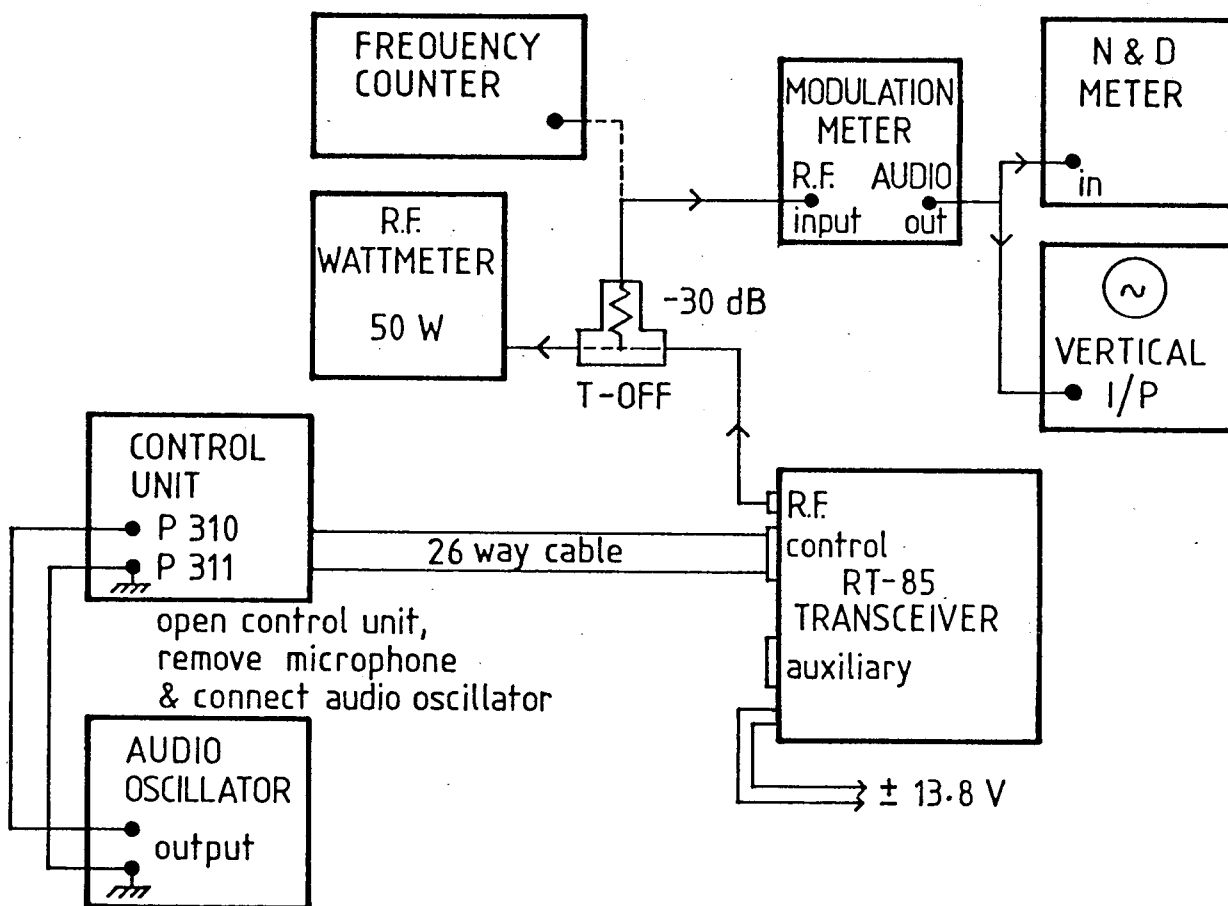

Fig. D-3 Transmitter Alignment Set-Up
2. Set up test equipment as shown in Fig. D-3 below.
1. Set up as in Fig. D-3 (page D.2 - 5).
1. Connect unit under test as shown in Fig. D-3 (page D.2 - 5). Connect an ammeter (10A) between the power supply and transceiver.